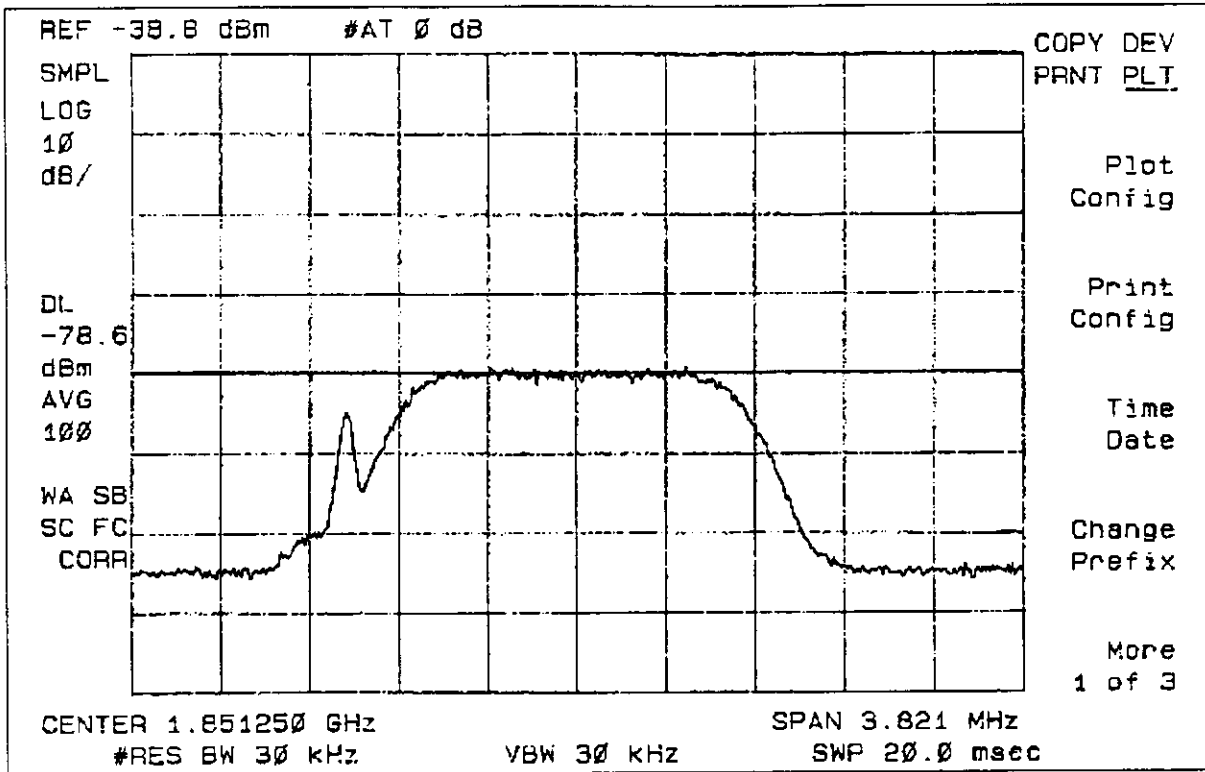

Figure 5-18. HIC Upstream Output with Video Averaging
4. Turn on video averaging and set the display line to the average power level of the U/S pedestal.	See Figure 5-18.